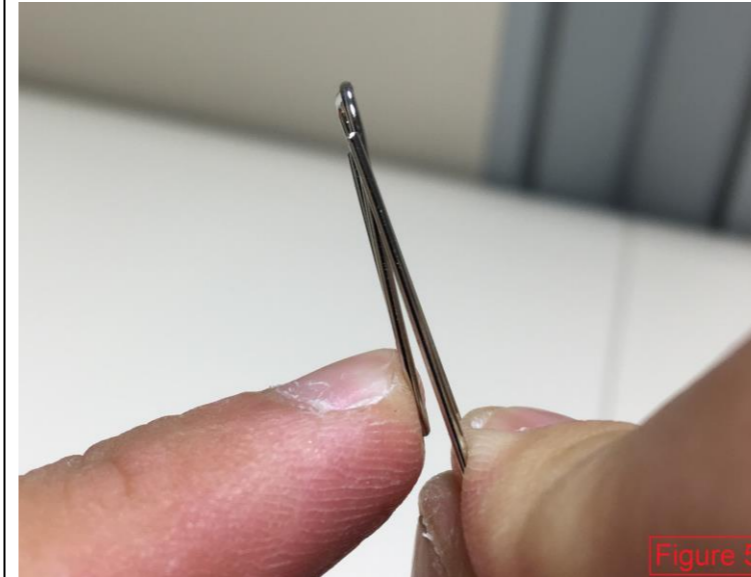

Figure 5
- 5) Once step 4 is completed, the clip should be as shown in Figure 5 above.